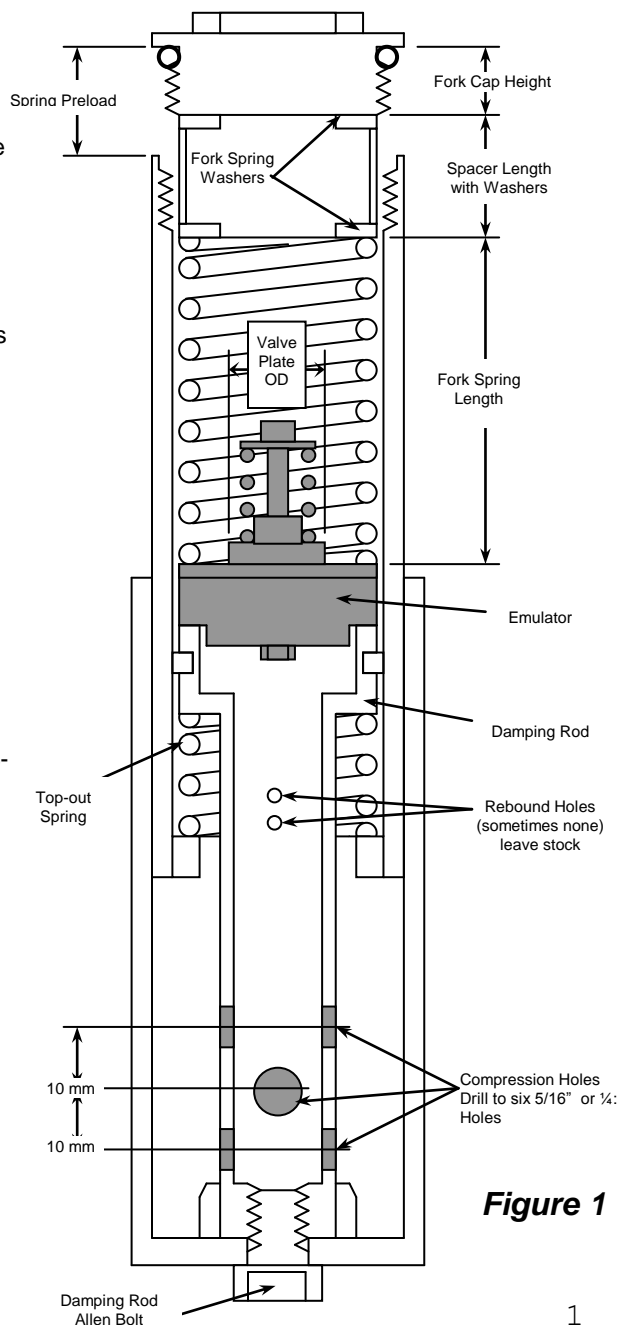
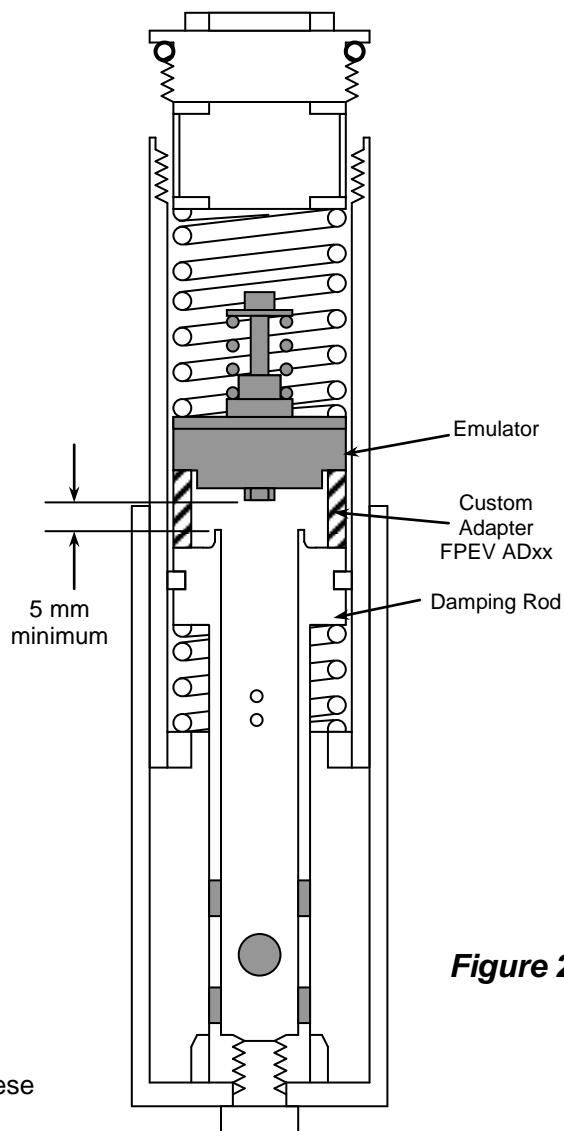

Figure 1
Figure 2
2 **Check the fit of the Gold Valve Emulator** by placing it on top of the damping rod. The step on the Emulator must sit into the large hole in the top of the damping rod and must completely cover it so there is no blow-by (figure 1).
- Check the inner diameter of the fork spring. It must be at least 4 mm (0.160") larger than the Emulator Valve Plate OD itself for proper flow (figure 1).
3 **Drill the existing compression holes in the damping rod to 5/16 inch (8 mm) and add additional 5/16" holes so you end up with six holes (3 sets of 2 holes) (figure 1).** When drilling new holes, space them axially (lengthwise) at 10 mm (7/16") increments. Each set of two holes must be perpendicular to the last set so as not to weaken the rod (figure 1). After drilling, chamfer and deburr the compression holes, inside and out. Do not add or enlarge the rebound holes and leave their edges sharp if any exist. Smaller Damping rods found in **31-35mm Vintage forks can use 1/4" (6mm) holes due to their small size.**
- a. Drop the Emulator down the tube. It sits on top of the damping rod with the Emulator Valve Spring facing up and is held in place with the main fork spring. Refer to figure 1. Visually check to make sure the Emulator is sitting squarely on top of the damping rod or the adapter. If you have flat-top or protruding style damping rods it requires the FPEV AD series adapters (figure 2) and they should be installed first, before the Emulator.
- c. Set the fork cap on the washer and determine the preload by measuring from the top of the fork tube to the sealing lip on the fork cap (see figure 1). This is a direct measurement of fork spring preload. Shorten the spring spacer tube to achieve the proper preload; 10-25mm based on sag and rider preference.
Adapter Height – The adapter must be tall enough to allow 5 mm (0.200") clearance between the top of the hole in the damping rod and the bottom of the jam nut on the Emulator. (Figure 2) Pre-made Emulator Spacers are available: FPEV AD 3003 standard style, FPEV AD3004 custom style center